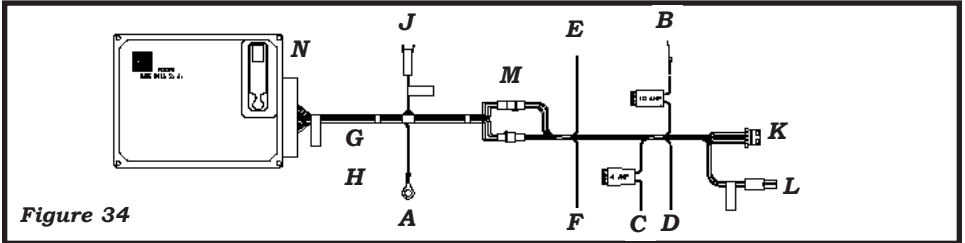

Figure 34
- B. Straighten the **CRUISE HARNESS** and find the **2- & 4-pin** mating connectors. Separate the **2- & 4-pin** connectors. A small screwdriver may be needed (See **K** in *Figure 34*).
Utilize **Figure 34** to make the necessary wiring harness connections to your vehicle.
The **Gray Vehicle Speed Signal (VSS)** wire is how the **GlobalCruise** “knows” how fast the vehicle is moving. The **Pulses Per Mile/Kilometer (PPM/PPK)** are a characteristic of the vehicle and must be set accordingly (See **Page 7**). If **VSS** cannot be located on the vehicle then an auxiliary road speed sensor must be used [**Signal Generator or Magnet & Coil Pick-Up Kit (Kit# 250-4165)**]. If you use an auxiliary speed sensor, plug it into auxiliary speed sensor connector (**J** in **Figure 34**) and trim the **Gray VSS** wire as not to pick-up any stray signals.
This connector is used in conjunction with the **4-Pin Switch Connector (H in Figure 34)**. The **2-Pin Switch Connector (J in Figure 34)** is utilized by control switches which require an additional power and ground source such as those containing an **LED** indicator light or **rostra Radio Frequency (RF)** models.